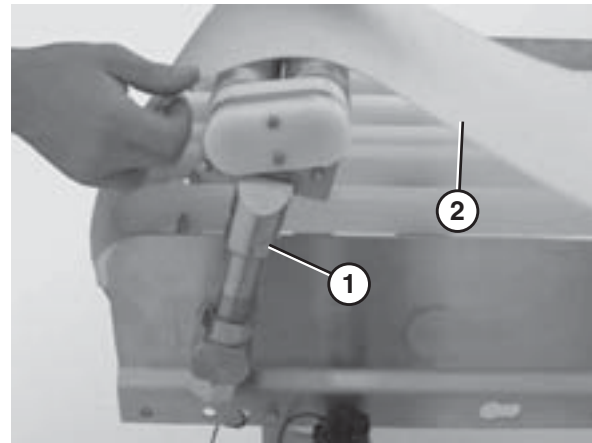

Figure 38
2. Place the tip up tail (Figure 38, item 1) in the up position.
3. Lift up on the belt (Figure 38, item 2).